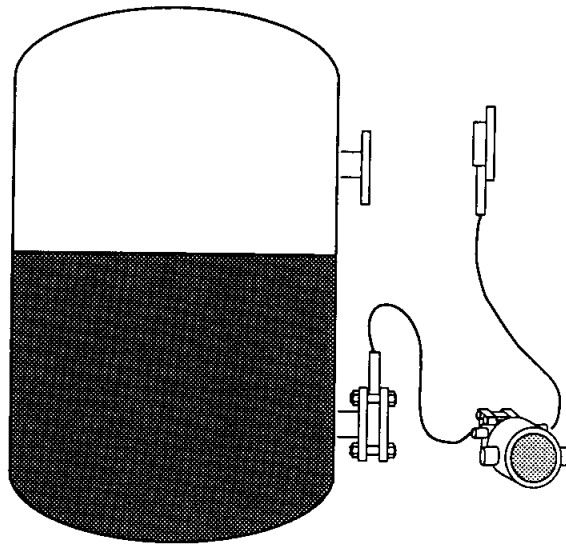

Figure 14.7 Installation on Process Side Flange No.1
- (2) Mounting the transmitter flange on the process side flange
Mount the transmitter flange *1 on the process side flange before fastening it to the end of the adaptor that was fixed to the transmitter in step (1). (Refer to Figure 14.7.)